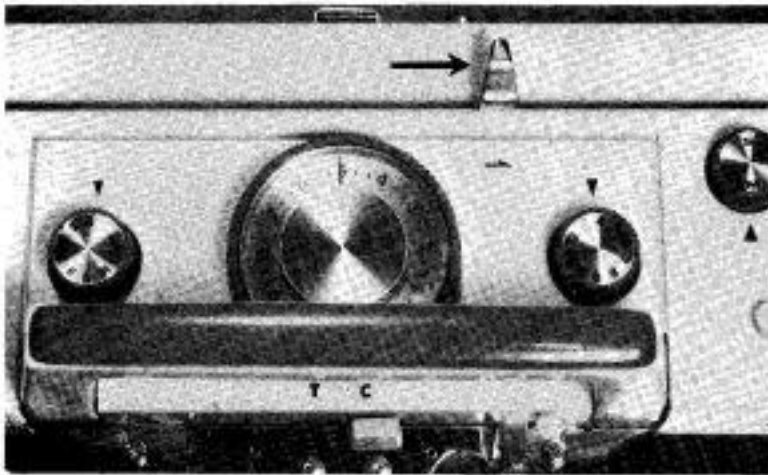

Fig. 79
1. The Row Counter automatically counts the rows as the carriage is moved from side to side with the Row Counter Trip Arm extended—just tap the Arm in direction shown by the arrow in Fig. 79.